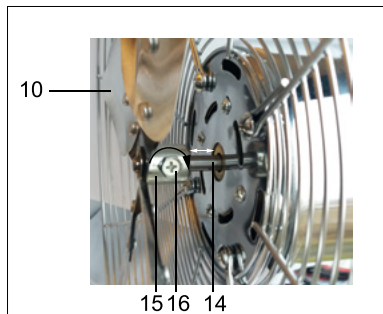

Fig. 13: Mounting rotor
15. Turn the Phillips-head screw (16) on the spacer (15) of the rotor (10) counterclockwise until a well-permeable opening is obtained.
16. Push the rotor (9) with the spacer first onto the motor axis (14).
*The rotor with the spacer must not rest directly on the engine block. See Fig. 13.*